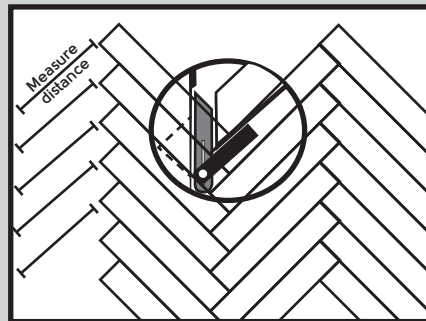

Fig 9.
10. Cutting and installing planks at the walls should be done as follows. Measure and mark planks as shown in diagram. The angle for the wall can be found using an angle finder (see below) (Fig 9.).